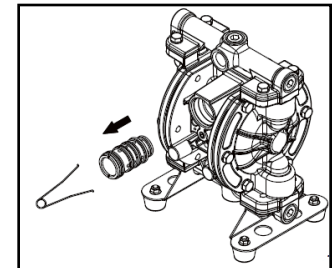

Figure 45
- Remove the sleeve using the sleeve remove. (special tool: Part No. 713148.). (See Figure 45).